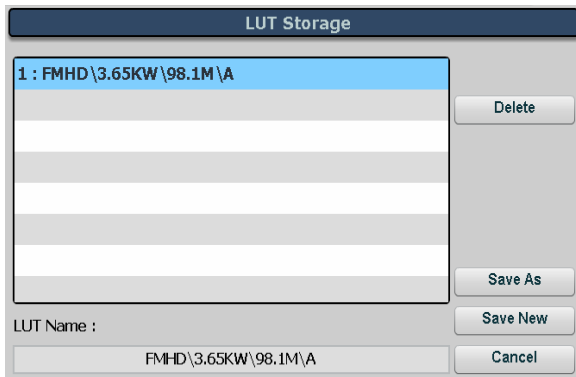

Figure 1: LUT Storage Sub-Menu
- (b) Go to the **AUI Menu / Hardware Configuration / LUT Storage** screen and record the stored Index details vs. the Index # in the table, for example Figure 1 shows index 1 having a mode of FM+HD, a power of 3.65 kW, a frequency of 98.1 MHz and it is exciter A. The associated Preset will also have this *LUT Index #* selected under the **Other Audio Settings** sub-menu. In this example, index 1 is the only index to have a LUT stored. If others were stored in exciter A, they would appear under index 2, 3, etc., and may have different modes (FM+HD or HD), power levels, frequencies and even injection levels (default is -20 dB if not shown). The table shows the stored indexes for the active exciter; exciter B indexes will have \B at the end in place of \A and there should exist an equivalent B index for every A index (same index # and description).
- (c5) With the transmitter operating at the preset power level and with all objectives satisfied, go the **LUT Storage** sub-menu (see the example in Figure 1), select the associated LUT index (the line should turn blue and the *LUT Name* field should update to show the same name, see example above). Press **Save As** button to overwrite the existing stored LUT.